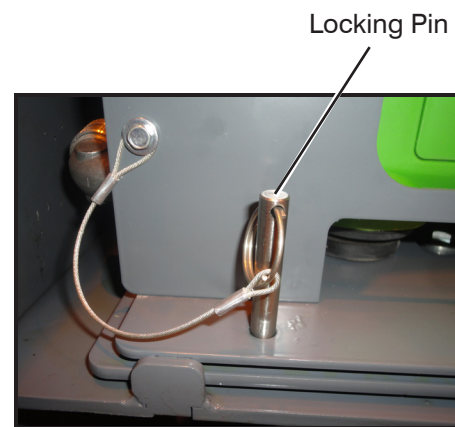

Figure 3-6. HPP Locking Pin
1. Remove locking pin (shown in Figure 3.6) and rotate HPP to access the HPP fuel on/off switch.